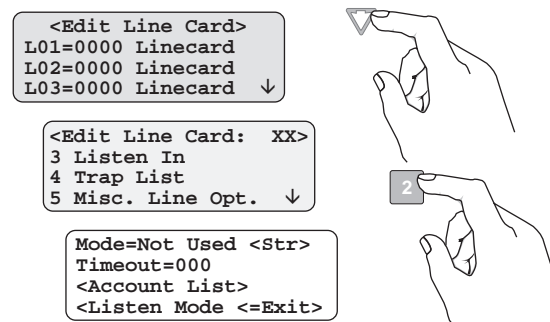

Figure 5-13 Listen Mode Menu Display
3. When the display shows the listen-in options menu (Figure 5-13):